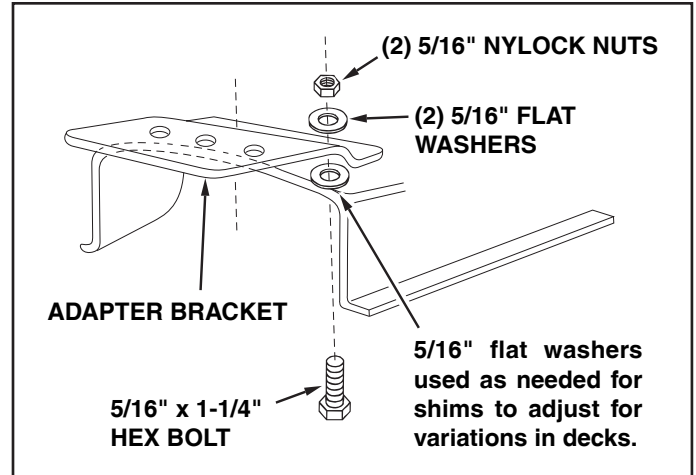

FIGURE 26
- Assemble the adapter bracket to the deck using two 5/16" x 1-1/4" hex bolts, 5/16" flat washers and 5/16" nylock nuts. See figure 26.
**NOTE:** It may be necessary to use extra 5/16" flat washers to shim under the bracket next to the deck surface. Ten extra washers have been furnished as shims. See figure 26.